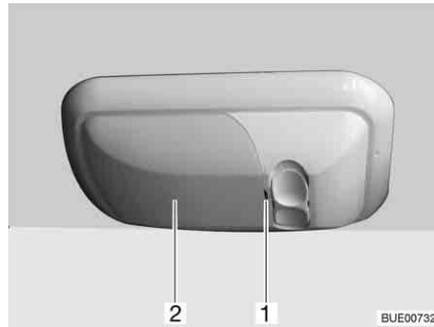

Fig. 207 Garage light
- Use a suitable tool (e.g. a screwdriver) to carefully lever out the cover (Fig. 207,2) at the notch (Fig. 207,1) and remove it.